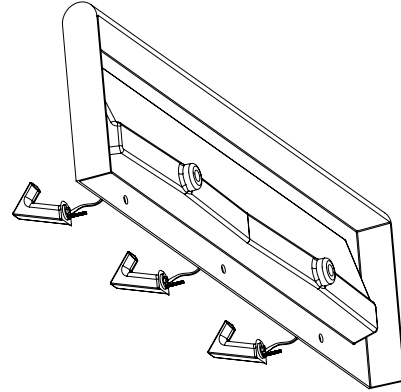

Figure 11
11. Install Faucet spouts, (Figure 11) onto sink according to manufacturer's instructions provided with components.